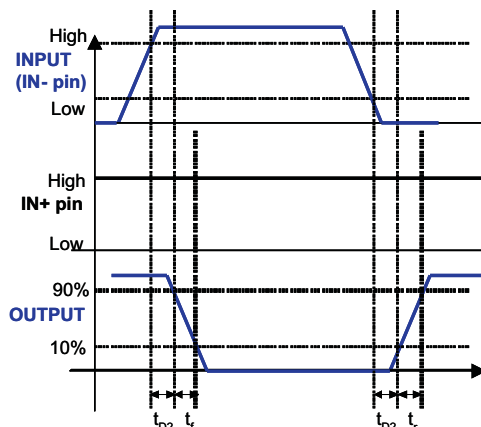
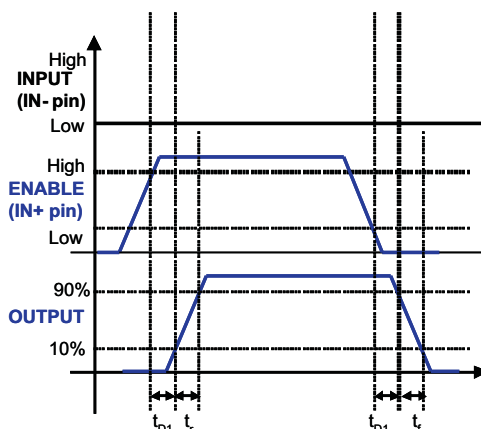

Figure 2. Inverting Configuration
Figure 3. Enable And Disable Function Using IN+ Pin
(3) See timing diagrams in Figure 1, Figure 2, Figure 3 and Figure 4.